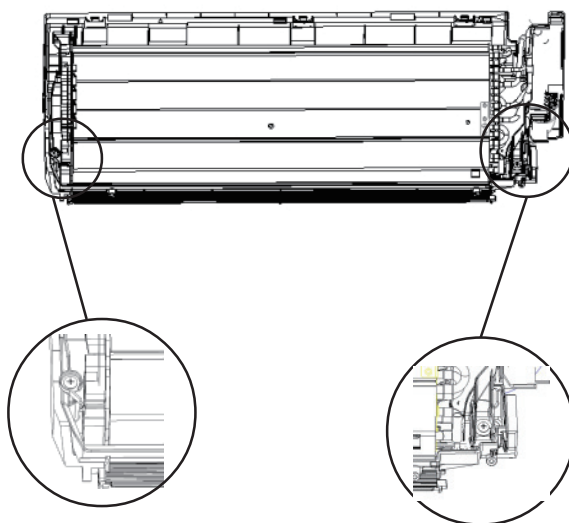

Fig. 42
- (3) Loosen the 2 screws, in the right and the left, which fix the heatexchanger. (Fig.42)